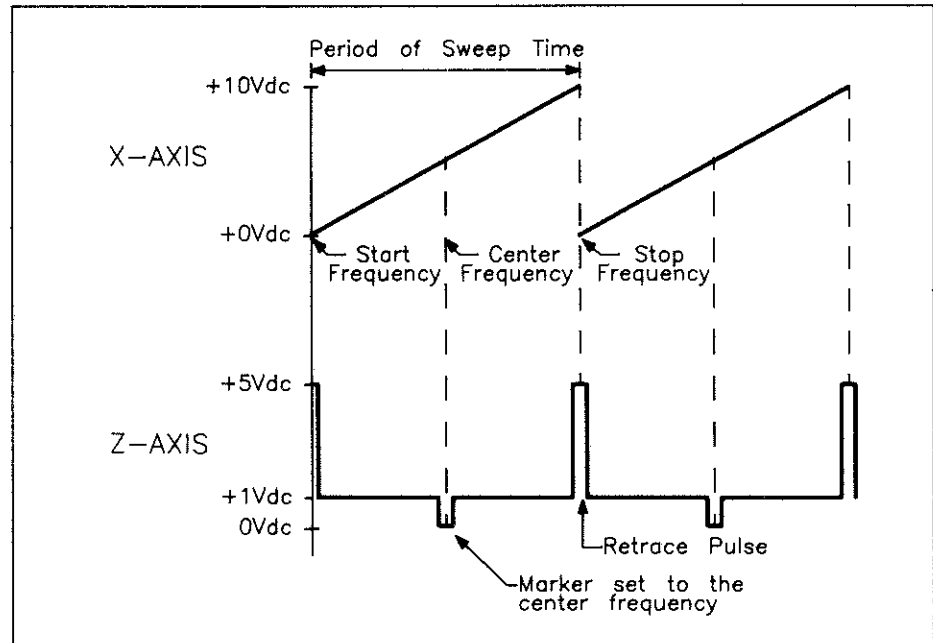

Figure 3-8. X-Axis and Z-Axis.
The rear-panel **X AXIS** output connector provides a voltage ramp with a nominal +0 to +10 V dc signal when sweep is triggered in one of three ways (Auto, Single, or Manual). As shown in figure 3-8, voltage points at the extremities of the X-axis ramp coincide with start and stop frequency values. That is, +0 V dc is the start frequency value, and +10 V dc is the stop frequency value. As the sweep time decreases, the slope of the X-axis ramp increases.
**Z-Axis** The rear-panel Z AXIS output connector provides a +1 V dc output signal that changes to a +5 V dc pulse during retrace to blank the oscilloscope CRT, and also changes to a 0 V dc level whenever a sweep marker is present as shown in figure 3-8.